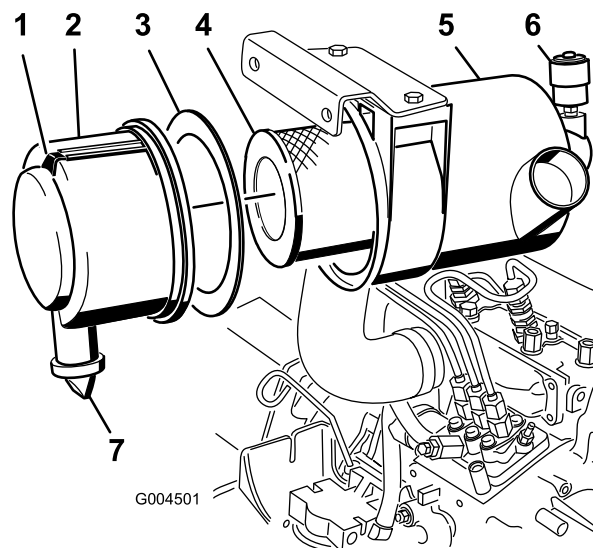

Figure 26
2. Check the air-intake system for leaks, damage, or loose hose clamps (Figure 26).